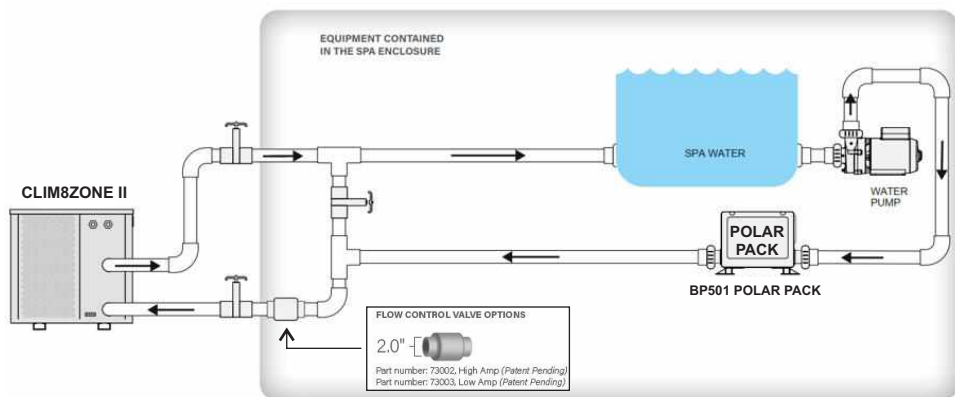

Figure 1
- 1 - Make sure the BP501PP Control System (figure 1, **B**) is powered Off at the GFCI or circuit breaker before starting the installation process.
- 2 - Remove the lid from the BP501PP Control System (figure 1, **B**) by loosening these two screws (figure 1, **C**) with a Phillips head screwdriver. There is a wiring diagram in the inside surface of the lid. Refer to the wiring diagram during steps 3 and 4.
- 3 - Connect the power cord (figure 1, **D**) to the circuit board of the BP501PP Control System (**J47 AV+C8Z II**). The connectors are keyed, so make sure they are properly aligned (figure 2, **F**) before making the connection.
- 4 - Connect the data bus (figure 1, **E**) to the circuit board of the BP501PP Control System (**J33 or J45**). Refer to the wiring diagram for the proper connection. The connectors are keyed, so make sure they are properly aligned (figure 2, **F**) before making the connection.
- 5 - Reinstall the lid of the BP501PP Control System (figure 1, **B**).
- 6 - Bonding: This unit is provided with a grounding lug (figure 1, **G**) and must be electrically bonded to the spa common bonding grid. Connect the grounding lug with the spa common bonding grid with a #8 minimum solid copper wire.